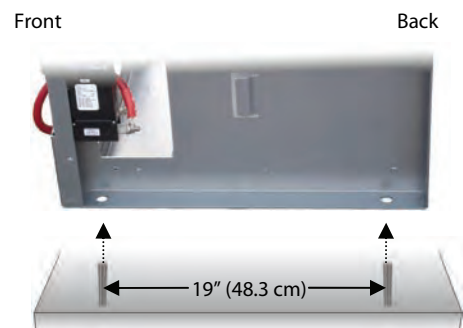

Figure 2 Mounting on Floor Studs
1. Install four ½" studs into the mounting surface (concrete or a similarly reinforced material). From the front to the back, the stud centers should be spaced 19" (48.3 cm) apart, as shown in Figure 2. Spacing from left to right should be 25" (63.5 cm) apart.
2. Lower the battery rack over the four studs as shown in Figure 2 and settle the rack in place.